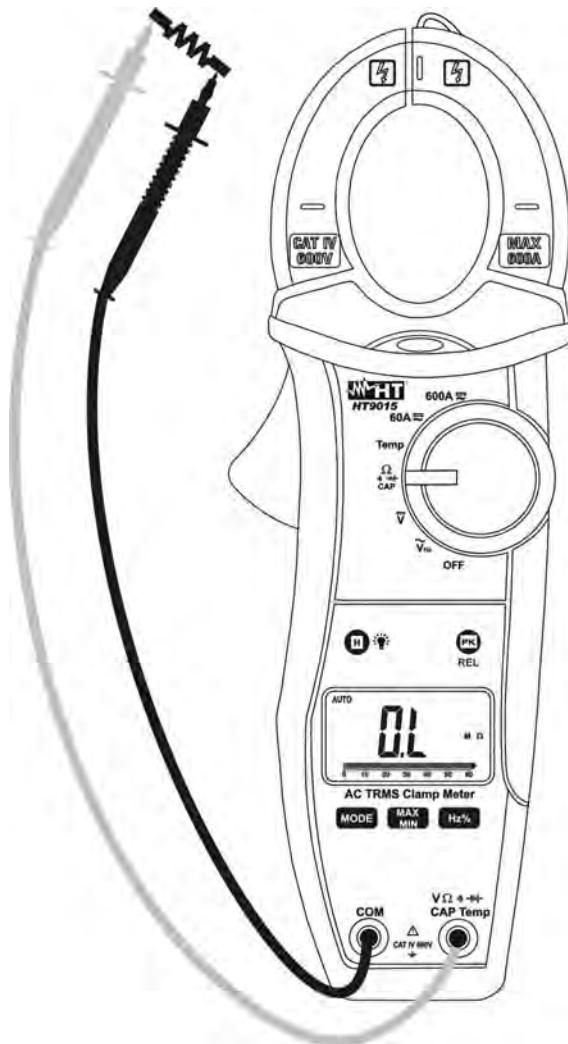

Fig. 5: Taking Resistance measurement
2. Insert the red test lead plug into $V\Omega\text{CAPHz}\%\text{Temp}$ jack and the black test lead plug into **COM** jack (Fig. 5)